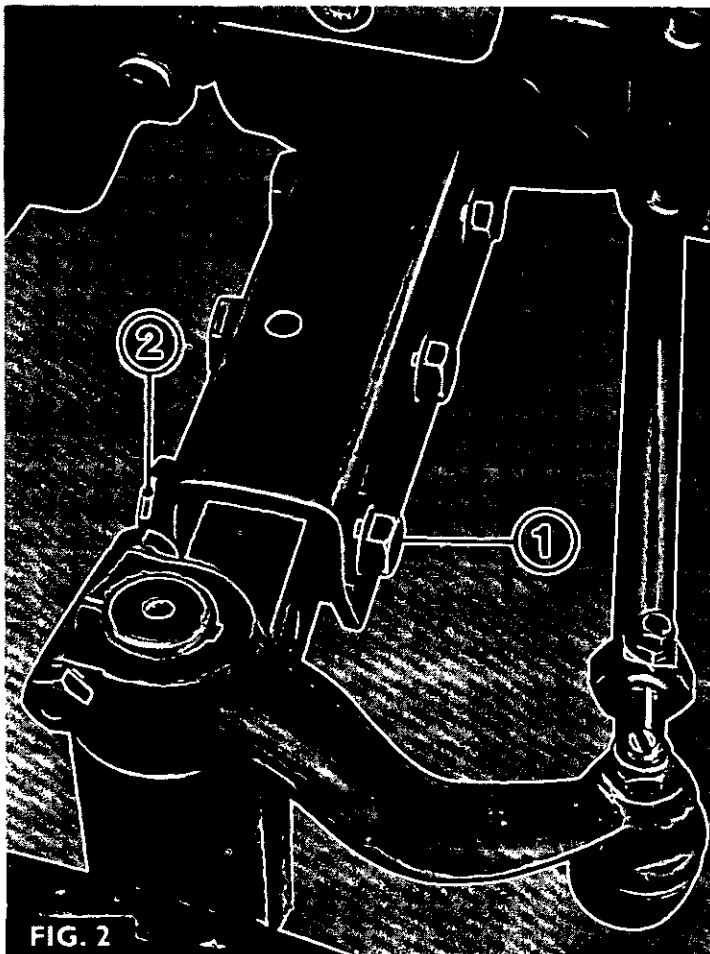

FIG. 2
The front track is adjustable in 102 mm (4 in) steps, as shown in Fig. 2.
3. Fig. 2. Spread the outer arms and the telescopic tie rod to the required track setting.